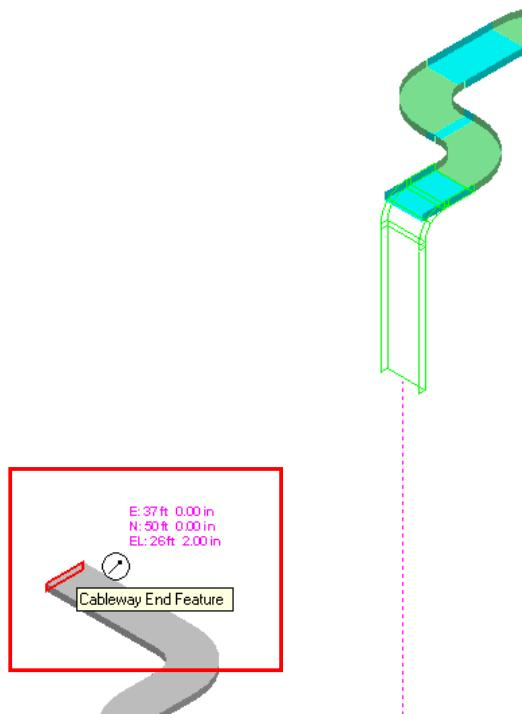

Figure 44: Extending the Cableway
35. Move the cursor to the other end feature of the cableway with non-zero spec to get the elevation coordinate, as shown in Figure 44.